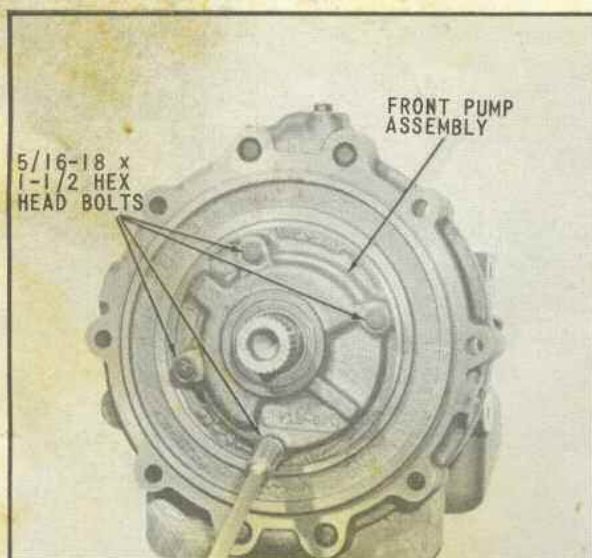

Fig. 69 Mounting Front Pump to Adapter
68. With the pump assembled squarely against the adapter and pump gasket, and the seal assembly tool removed, install four (4) 5/16-18 hex head bolts, (Fig. 69). Tighten hex head bolts evenly to torque of 17-22 pounds-feet.